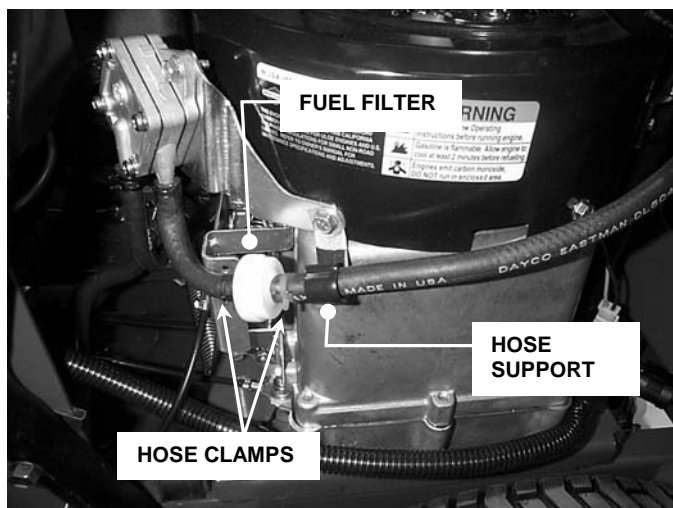

FIGURE 3.13
2. Pull hose out of hose support clamp. See Figure 3.13.